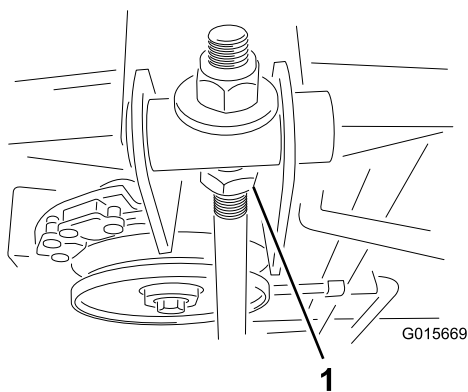

Figure 39
7. Loosen the jam nut (Figure 39).